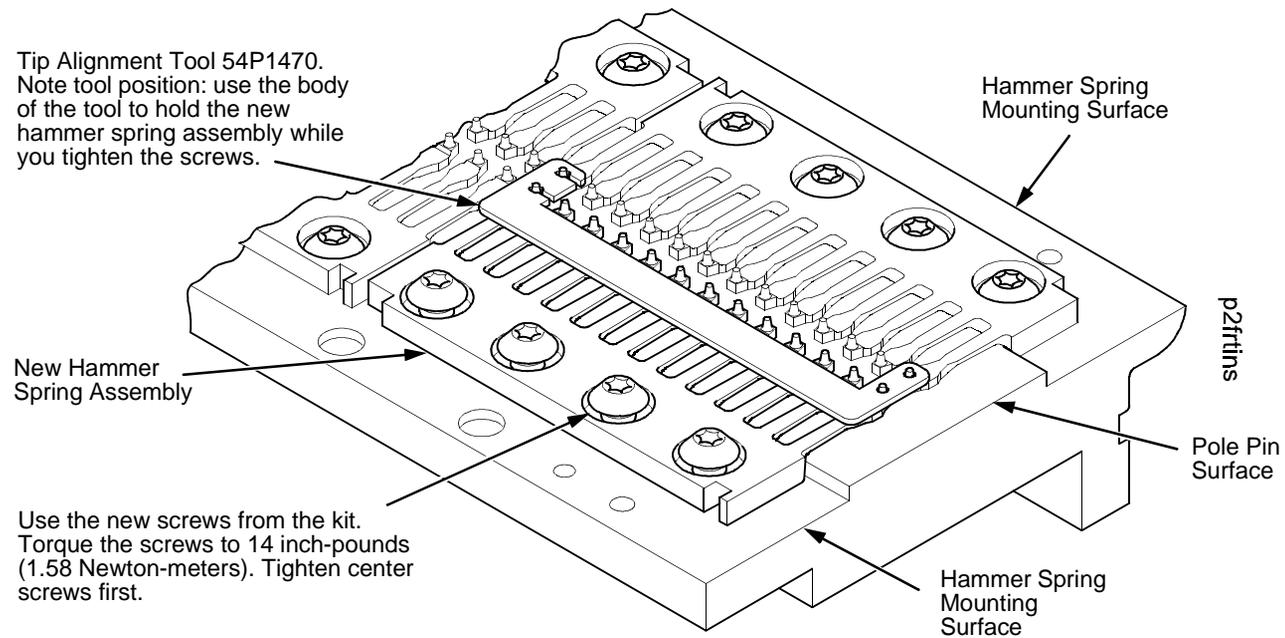

Figure 21. Use the Short Tip Alignment Tool to Install One Hammer Spring Assembly on a Dual Hammer Bank
3. Handling the hammer spring assembly by the mounting base only, position the new assembly on the hammer bank and install the mounting screws from the replacement kit finger tight. (See Figure 21.)
4. Gently position Tip Alignment Tool 54P1470 so that hammer tips from the new spring assembly and tips from the spring assembly “above” it are in the holes, as shown in Figure 21. Hold the new hammer spring in this position with the tool and use a Torx T-10 bit adapter to torque each screw to 14 in-lbs (1.58 N•m). Tighten the center screw(s) first. (See Figure 21.)